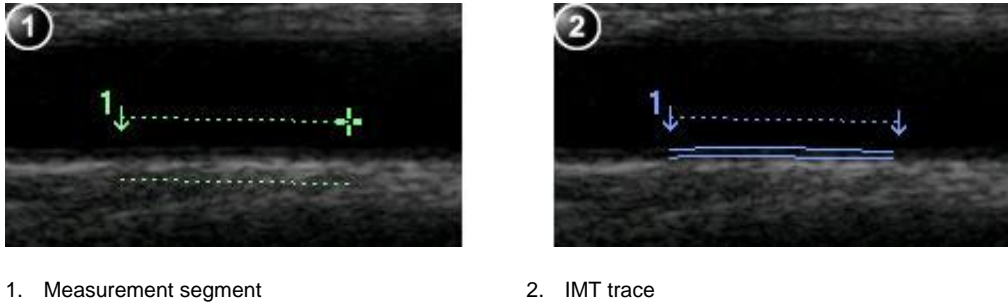

Figure 8-69. IMT Measurement segment and traces
6. Place the cursor in the artery closer to the posterior wall and press **Select** to anchor the start of the search region (Figure 8-69, left).
7. Move the cursor parallel to the artery to define the end point of the search region. Make sure the Intima and Media layers are within the search region (indicated by the lower dotted line in Figure 8-69, left).
Press **Select** to anchor the point. For the posterior wall the contour detector searches for the leading of the edges of the intima and adventitia layers. The detected contours are drawn in the image (Figure 8-69, right).